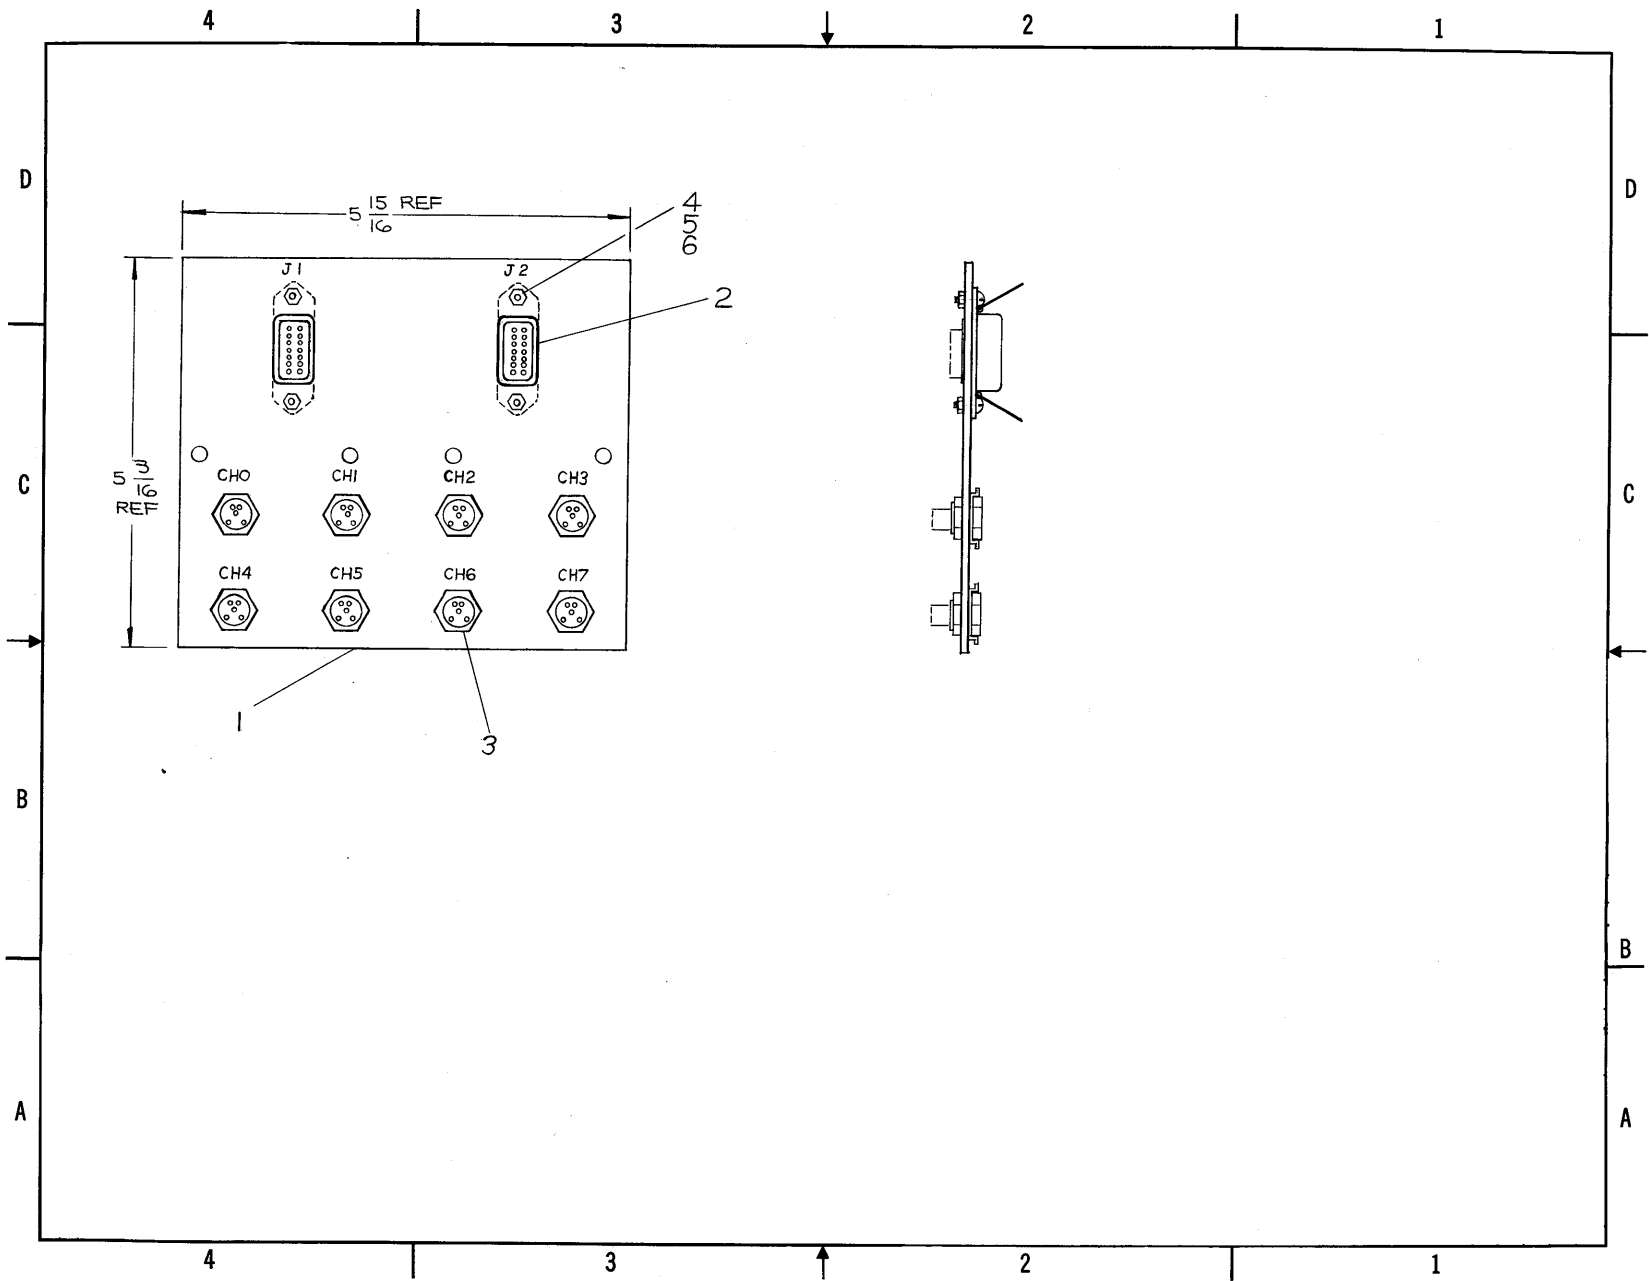

Figure 6-13 C-AD-7005925-0-0 H303 Amplifier Mounting
- Figure 6-13 H303 Amplifier Mounting Panel Connector Location Diagram (C-AD-7005925-0-0)